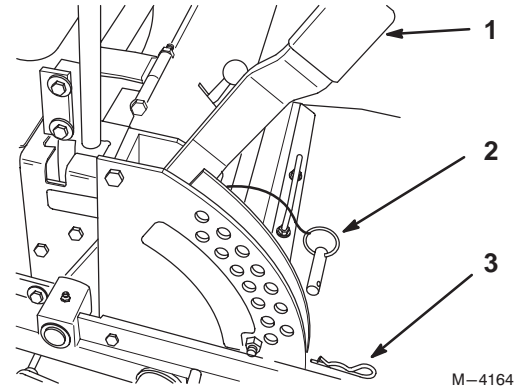

Figure 10
1. Press your foot on the lift assist pedal while raising the height-of-cut lever to the transport position (also the 5" (127 mm) cutting height position) (Fig. 10).
2. To adjust, remove hairpin cotter and clevis pin from height-of-cut bracket (Fig. 10).
3. Select hole in height-of-cut bracket corresponding to the height-of-cut desired and insert clevis pin (Fig. 10).
4. Secure clevis pin with hairpin cotter (Fig. 10).